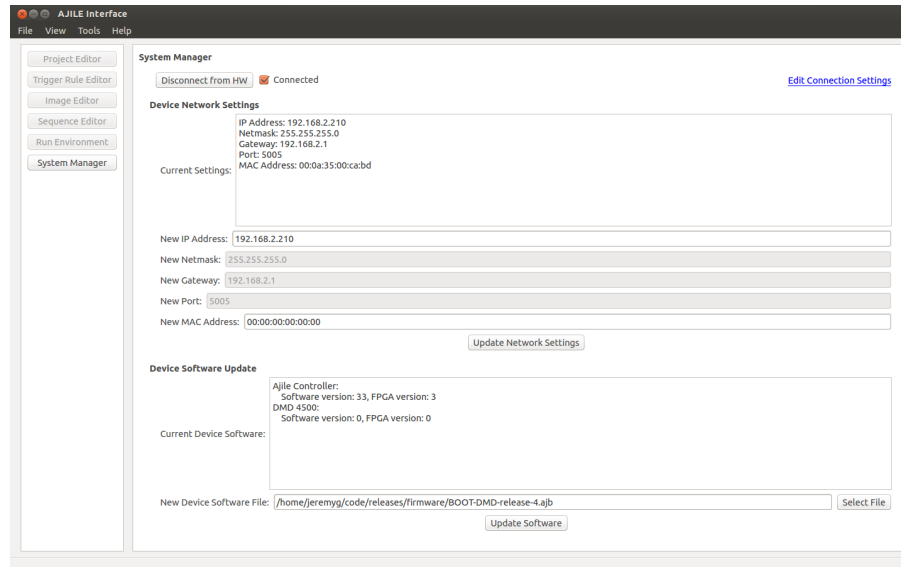

Figure 1.7: Screenshot of connecting with the System Manager.
9.1 for details on connecting.) When you are connected to the device you will see a screen similar to Figure 1.7 where the currently connected device firmware version is shown.